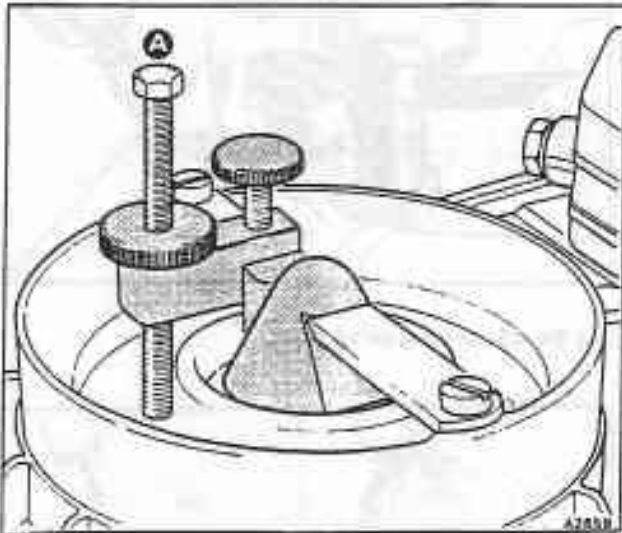

Fig. B4-45 Air flow sensor plate movement adjustment device
6. Press switch number one on the test equipment and move the air flow sensor plate downwards (using the adjusting device shown in figure B4-45) until the reading on the small rotameter indicates a flow of approximately 6,7 ml/min.